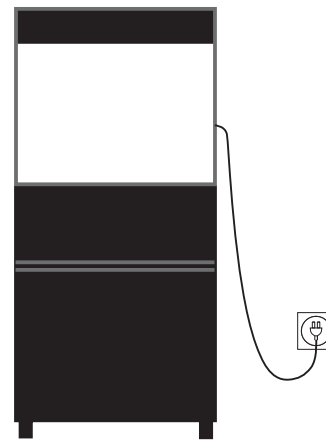

Figure 1: Drip Loop
- b. To avoid the possibility of the appliance plug or receptacle getting wet, position the aquarium stand and tank to one side of a wall mounted receptacle to prevent water from dripping onto the receptacle or plug. You should create a "drip loop"(see Figure 1) for each cord connecting an aquarium appliance to a receptacle. The "drip loop" is that part of the cord below the level of the receptacle, or the connector. Use an extension cord, if necessary, to prevent water travelling along the cord and coming into contact with the receptacle. If the plug or receptacle does get wet, DO NOT unplug the cord. Disconnect the fuse or circuit breaker that supplies power to the appliance. Then unplug the device and examine for presence of water in the receptacle.